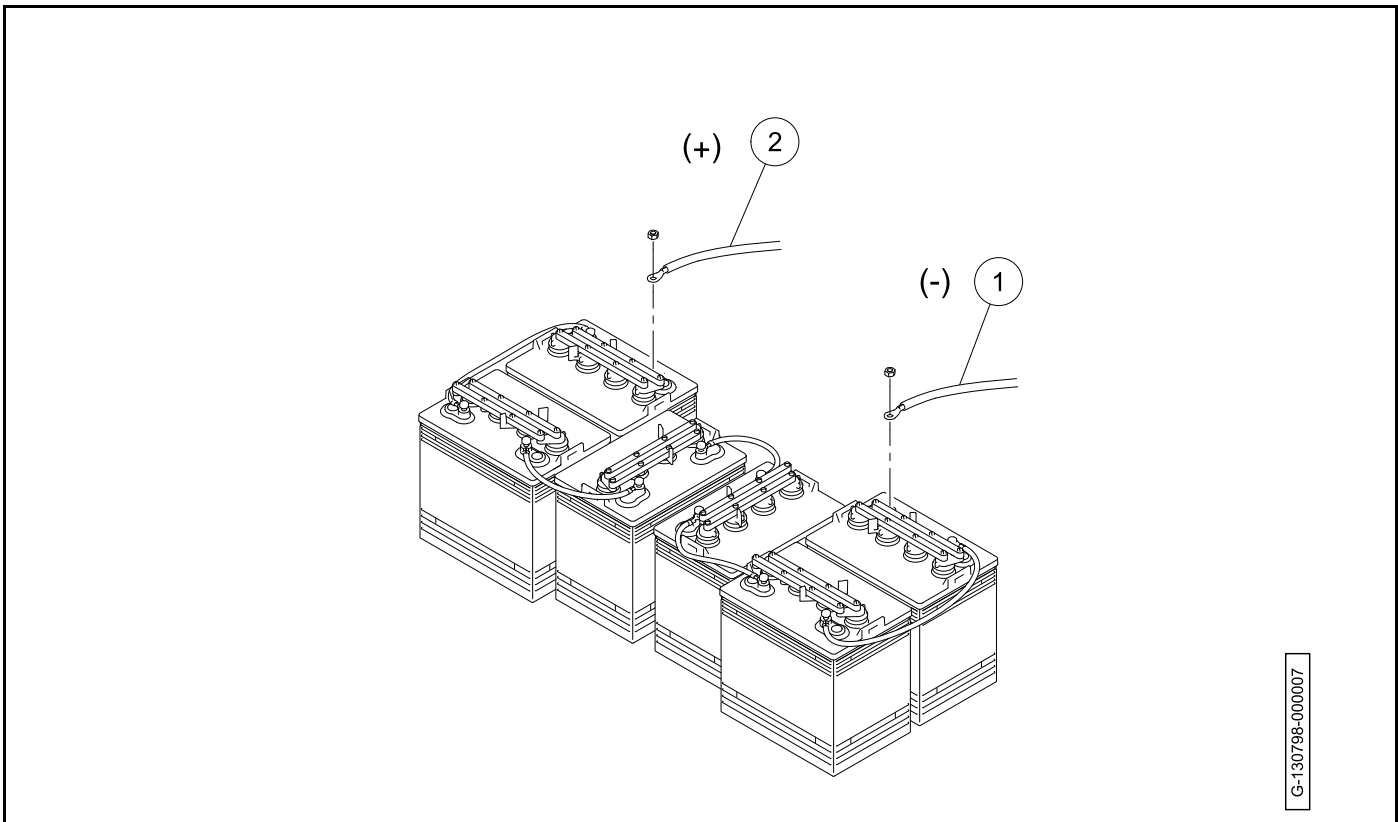

Figure 1-3 Connect Electric Vehicle Batteries
2. Connect the positive (+) cable (2) (Figure 1-3, Page 1-6).